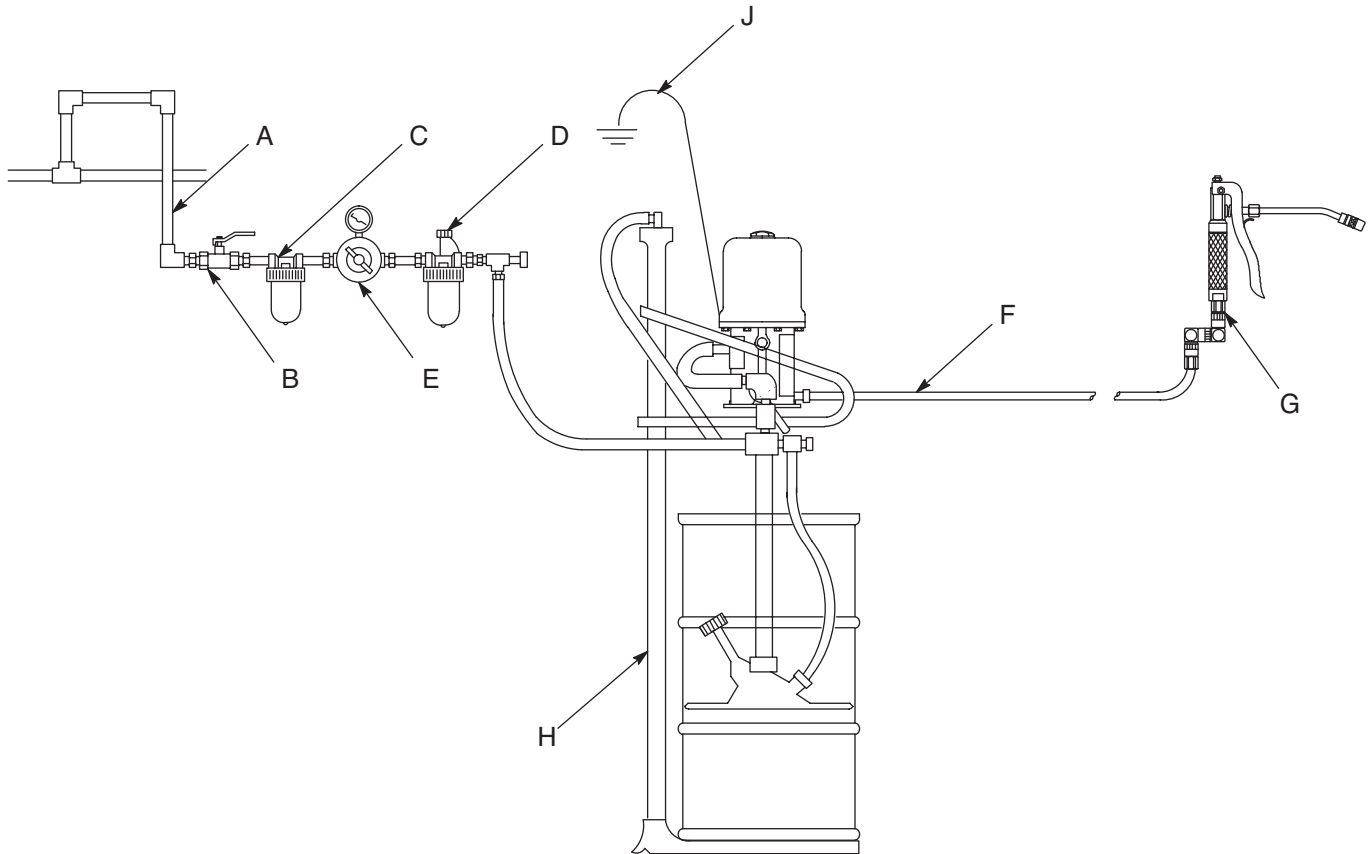

FIG. 2: Typical Installation
Install the airline accessories in the approximate order shown in FIG. 2. Install a bleed-type master air valve (B) within easy reach of the pump, upstream from the air regulator. Install an air filter (C) to remove harmful dirt and moisture from your compressed air supply. For automatic air motor lubrication, install an air line oiler (D) close to the pump air inlet. Install an air regulator (E) to control pump speed.
Use the air regulator (E) to control the pump speed and fluid pressure. See FIG. 2. Always use the lowest pressure necessary to obtain the desired results.